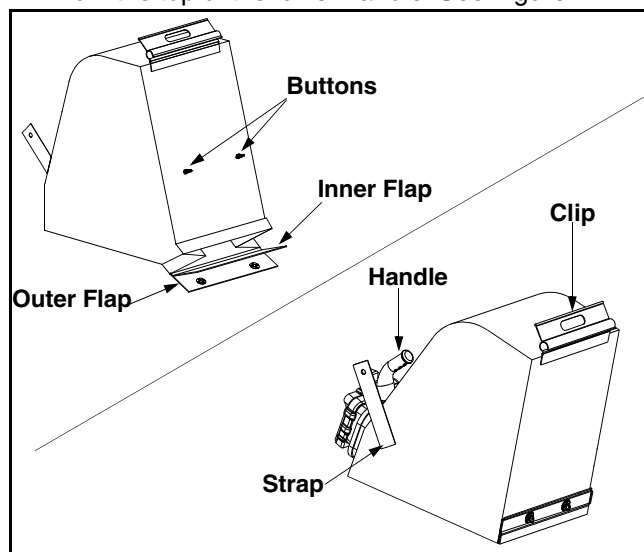

Figure 7
- Unhook straps from the lower handle and open clip from the top of the lower handle. See Figure 7.
- Twist the two buttons on the back of the bag to unlock and empty contents. See Figure 7.